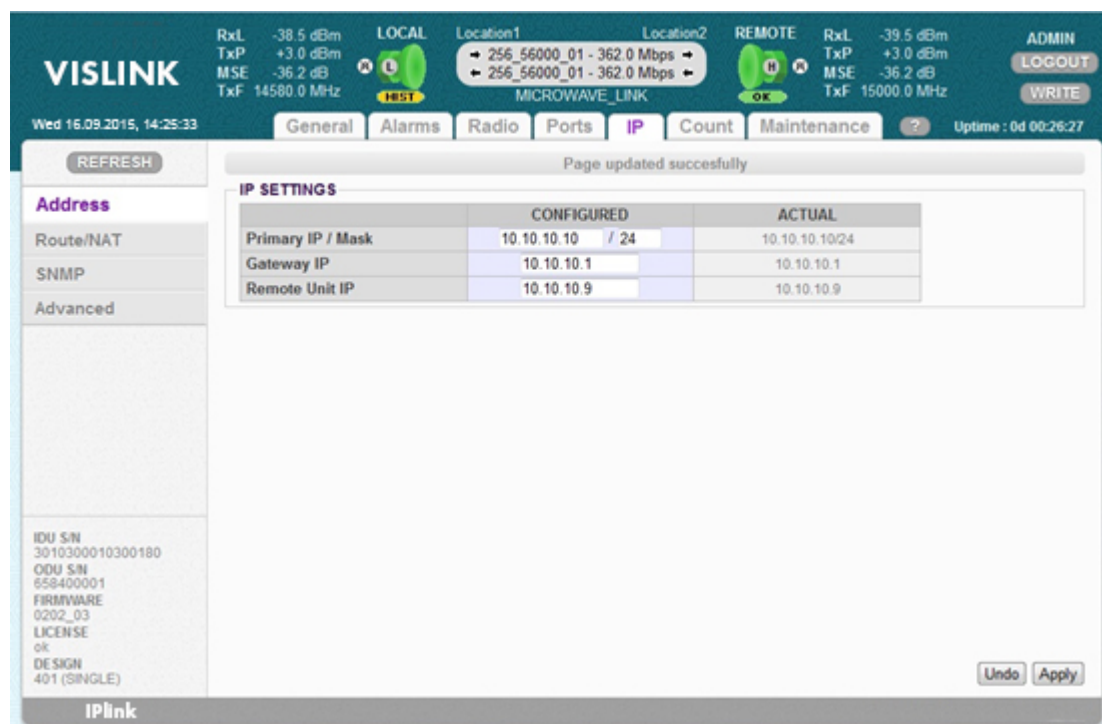

Figure 3-12 IP Address Configuration – GUI Page IP / Address
1. Using your preferred web browser, select the **IP** tab and **Address** side bar (see Figure 3-12).